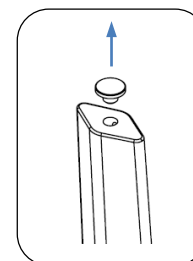
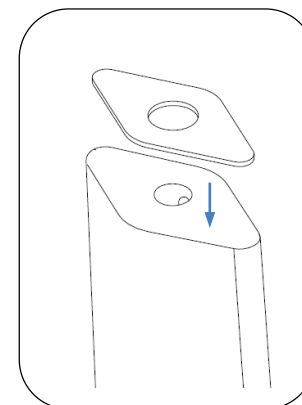

Fig. 1 – Remove glide
Fig. 2 – Install footpad
2. Remove glides, see Fig. 1.
3. Install four adhesive-backed footpads as shown in Fig. 2.
2. Remove two opposing glides, see Fig. 1. For example, remove the front left and rear right glides. Install footpads in locations where glides were removed, see Fig. 2.